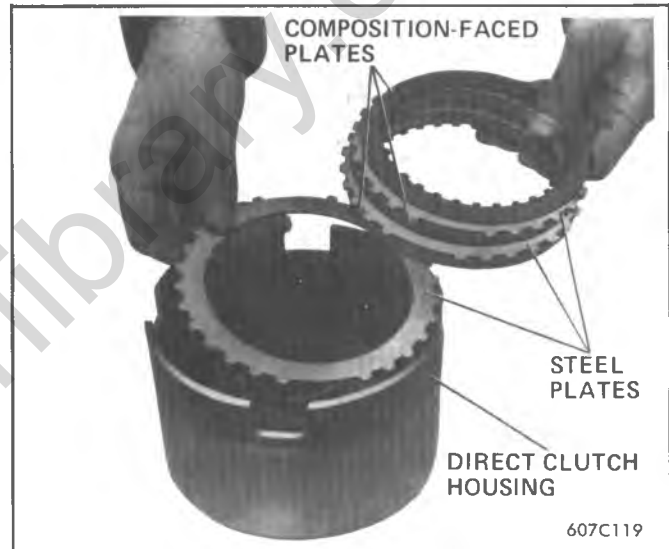

Figure 7A1-118 Installing Clutch Plates into Direct Clutch Housing
4. Remove snap ring and inspect for damage. (Figure 7A1-121).